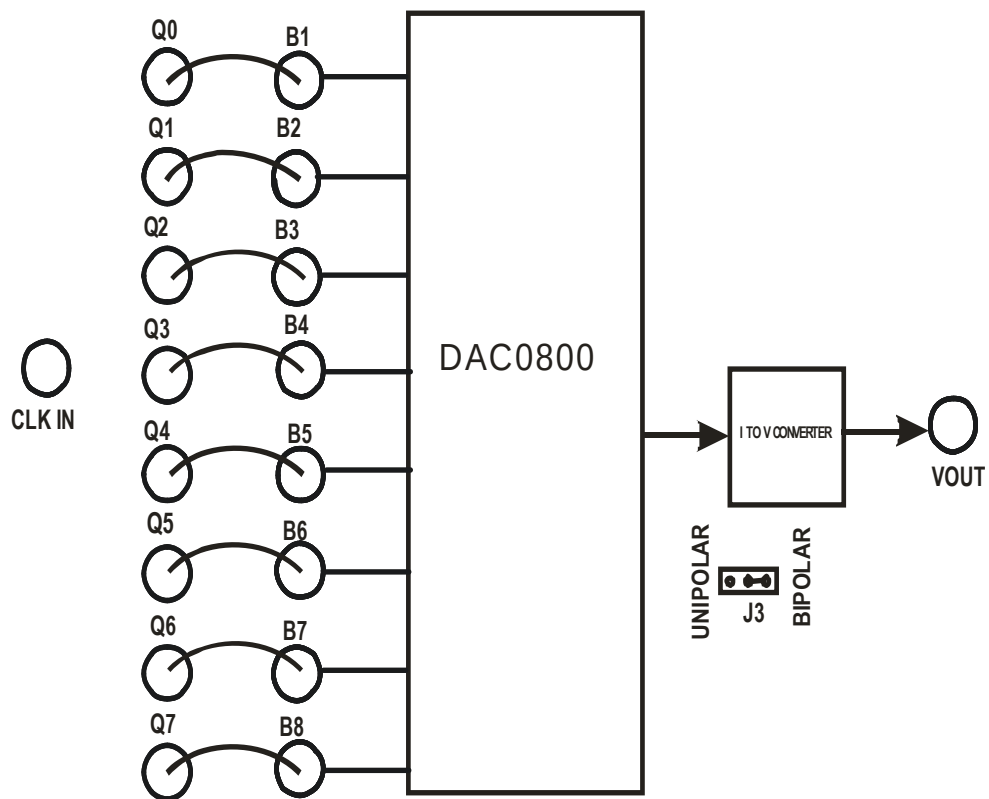

FIGURE-3.6
- 1) For Observing Ramp output, connect the inputs(B1-B8) of DAC0800 8 BIT MONOLITHIC DAC section with the onboard BINARY COUNTER (Q0-Q7) respectively having clock frequency nearby 100KHz(CLK IN) as shown below in FIGURE-3.6.